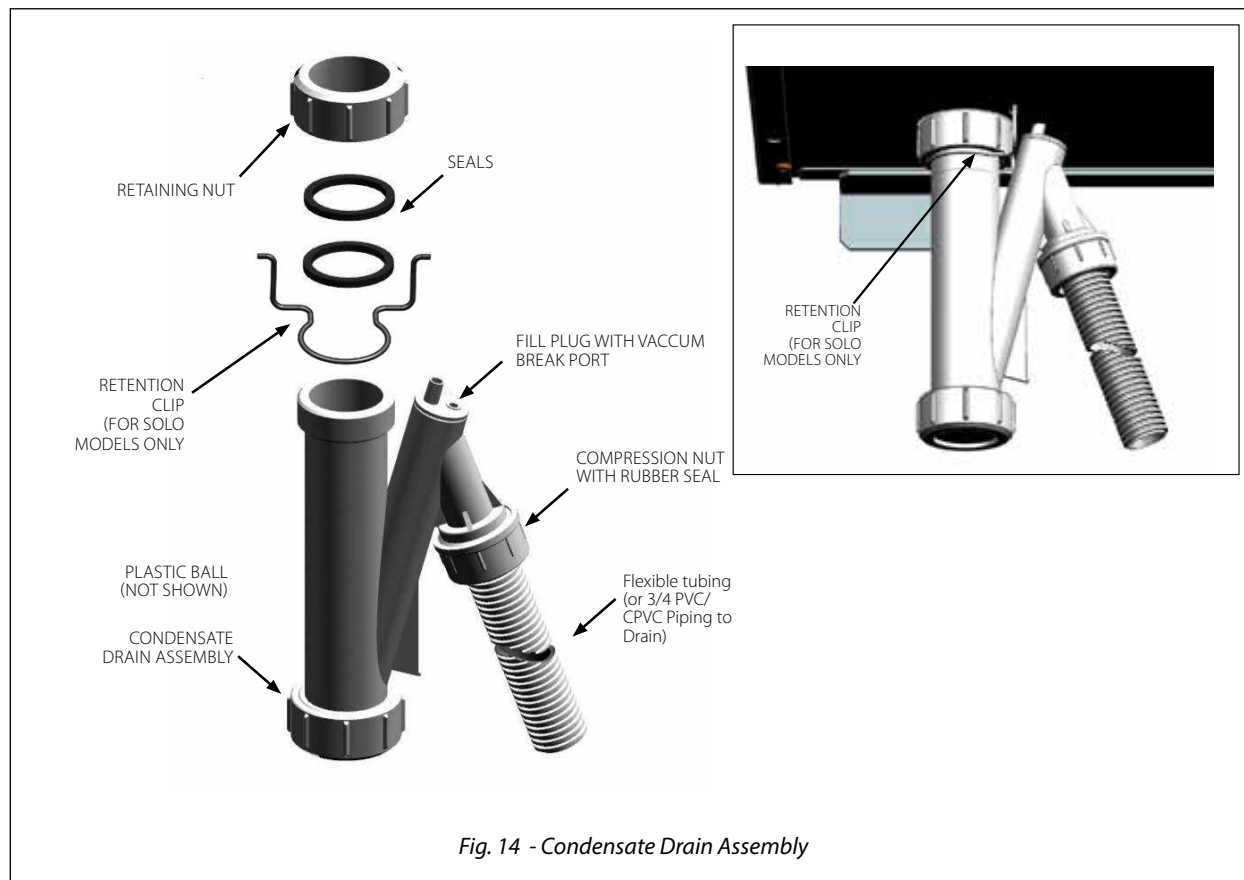

Fig. 14 - Condensate Drain Assembly
1. Locate the condensate drain assembly and ensure the seals are installed as shown in Fig. 14 on page 28.